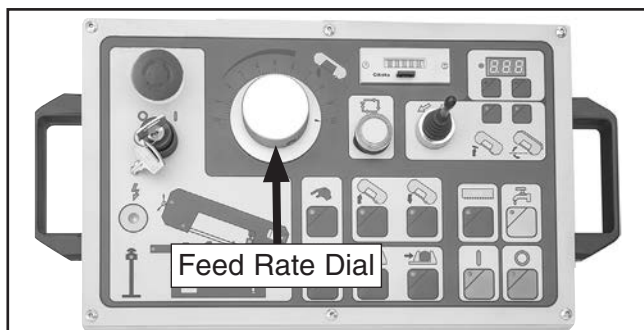

Figure 24. Feed rate dial.
1. Push hydraulic pump button (I) to turn hydraulic pump **ON**.
3. Adjust blade feed-rate dial shown in **Figure 24** to desired feed rate from 0 (slowest) to 10 (fastest).